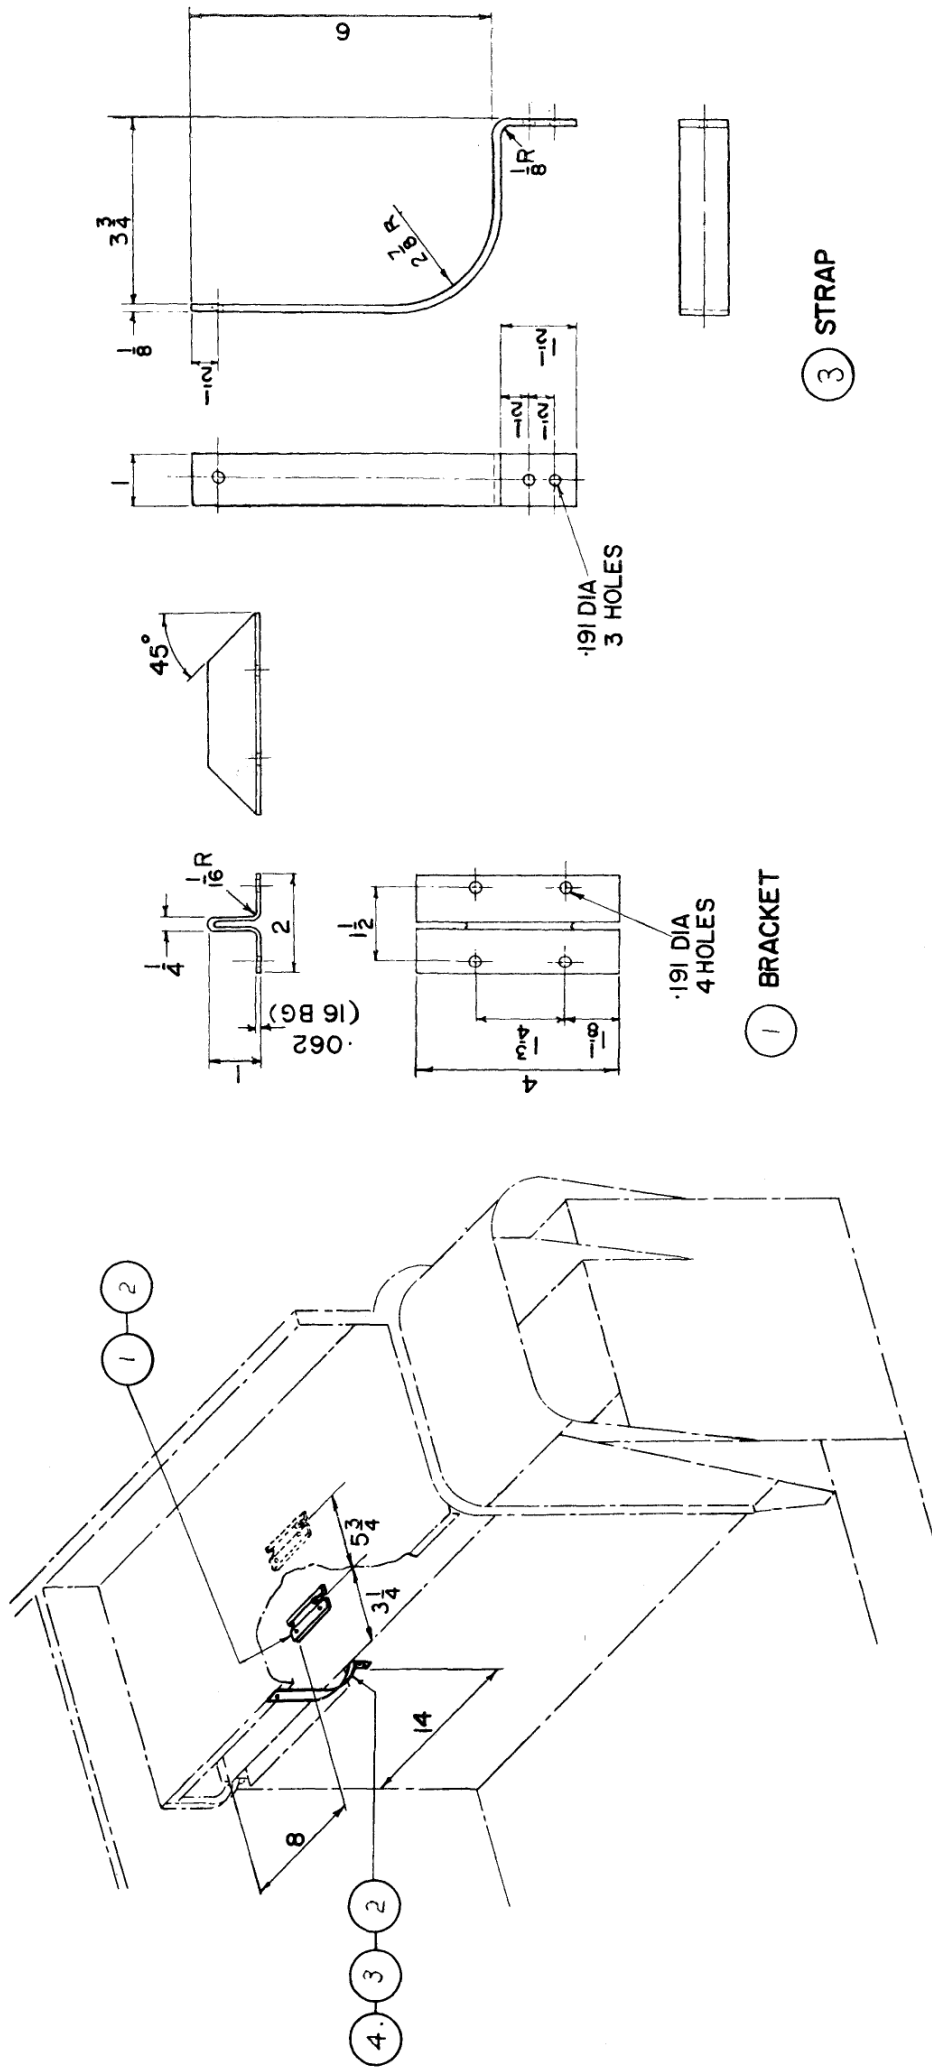

FIG 1 - SPACER BRACKETS AND SIDE BRACKET
- a. Manufacture the brackets as detailed in fig 1.
- d. Position the brackets as shown in fig 1, mark the rivet holes, then drill using the No 11 drill.